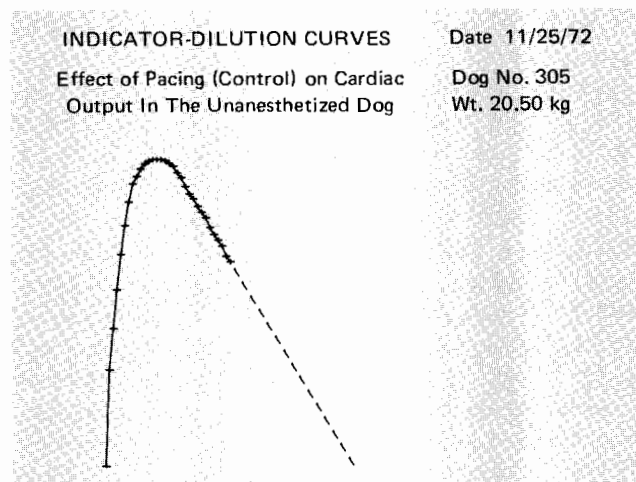

FIGURE 1
The determination of cardiac output in the dog using the indicator-dilution technique is done as a demonstration in the author's laboratory. The cardiac output determination is performed automatically (1,2) and the indicator-dilution curves are recorded before and after the infusion of epinephrine, which changes the value of the cardiac output. Using the Graph Digital Reader (3) the students digitize the curves that have been produced. Employing this program (published as HP part number 09810-75259), the data are entered into the HP 9810A Calculator and are subsequently replotted on semi-log paper using the HP 9862A Plotter; the indicator-dilution curve is extrapolated. See Figure 1. The paper-tape output prints out the values of cardiac output, central volume and other cardiovascular parameters. This program is used to perform calculations required in the author's laboratory where determinations of cardiac output in trained, unanesthetized dogs are routinely made.